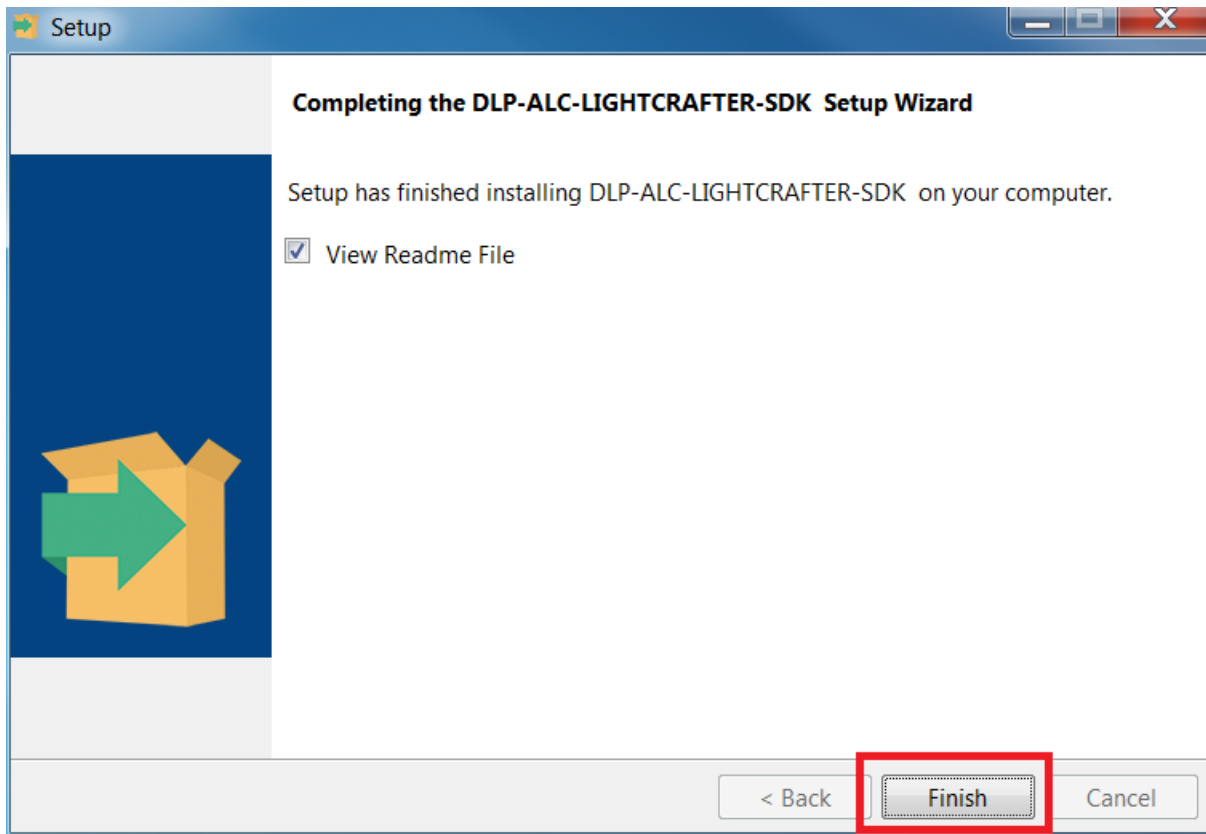

Figure 44. DLP ALC SDK Installer Finished
8. The installer will finish and look like Figure 44. Click "Finish" to exit the installer.